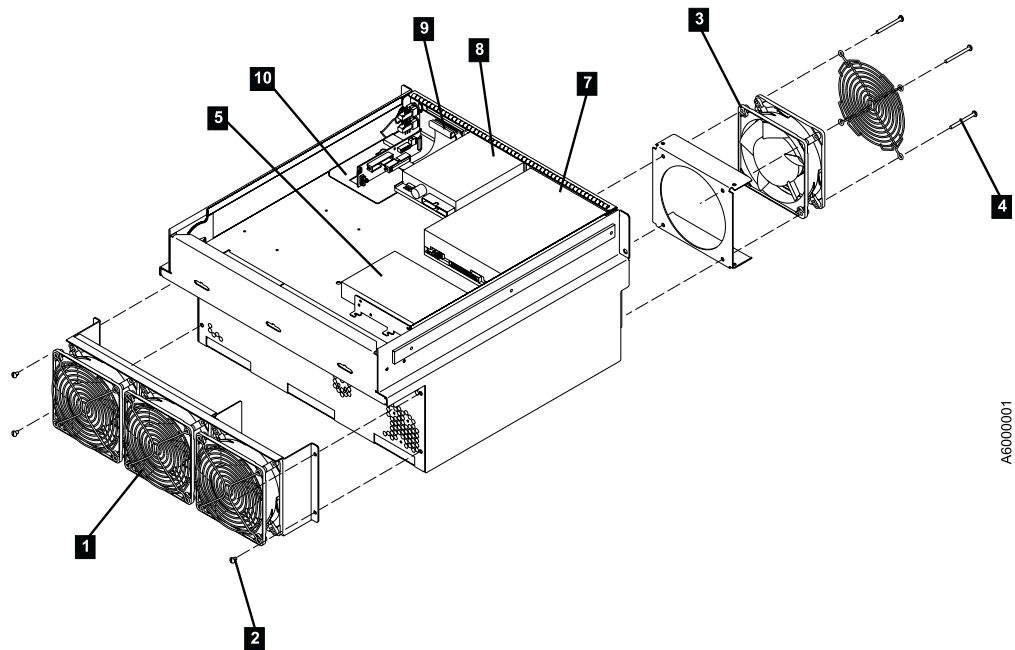
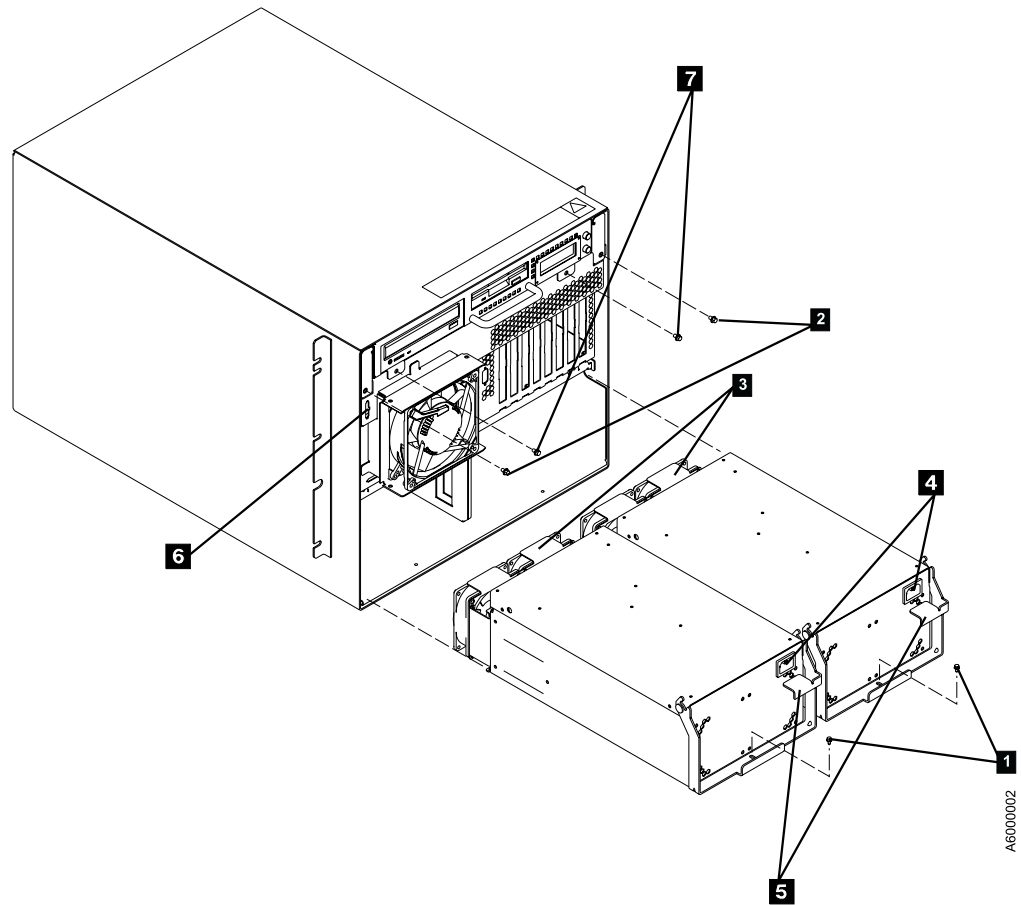

Figure 77. A60 Controller Rear Fan Assembly
Figure 78. A60 Controller Rear View
For this procedure, refer to Figure 77 on page 316 and Figure 78 on page 317
- \_\_\_ Step 3. Remove two chassis housing screws, refer to Figure 78 on page 317 **2**
- \_\_\_ Step 4. Unplug the two power cords from the power supply connectors (power supply end). Refer to Figure 78 on page 317 **4**
- \_\_\_ Step 7. There are 4 mounting screws, Refer to Figure 77 **2** securing the assembly to the chassis. Remove the 4 mounting screws , two on left rear side and two on right rear side.
- \_\_\_ Step 1. Slide the replacement rear fan assembly in position, through right rear side of Model A60, and install the 4 mounting screws, refer to Figure 77 **2** attaching the assembly to the chassis, two on left rear side and two on right rear side.
- \_\_\_ Step 4. Replace the two chassis housing screws, refer to Figure 78 on page 317 **2** .
- \_\_\_ Step 5. Replug the two power cords from the power supply connectors (power supply end). Refer to Figure 78 on page 317 **4**